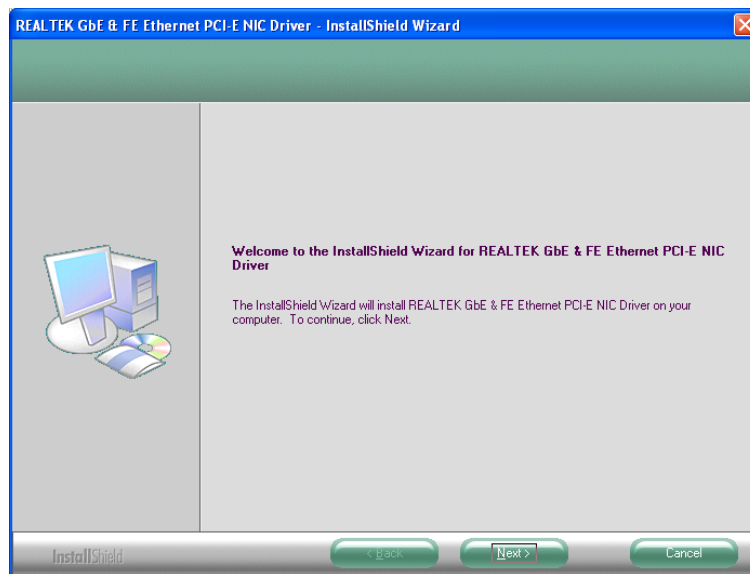

Figure 7-15: LAN Driver Welcome Screen
Step 2: The **Welcome** screen in **Figure 7-15** appears.